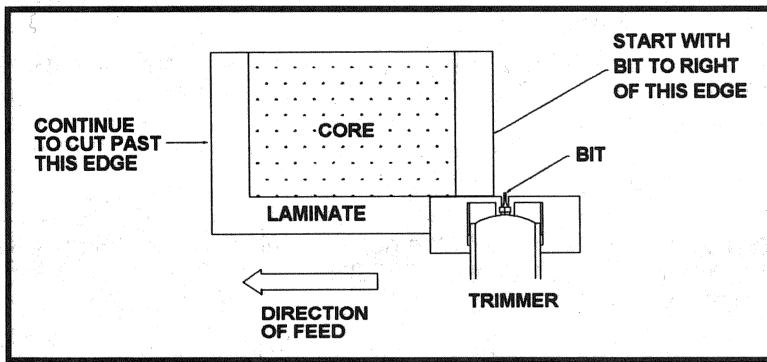

Fig. 6
4. Position the miter fold trimmer onto the laminate with the edge of the base against the side of the core and the bit beyond the right edge of the laminate (see Fig. 6).